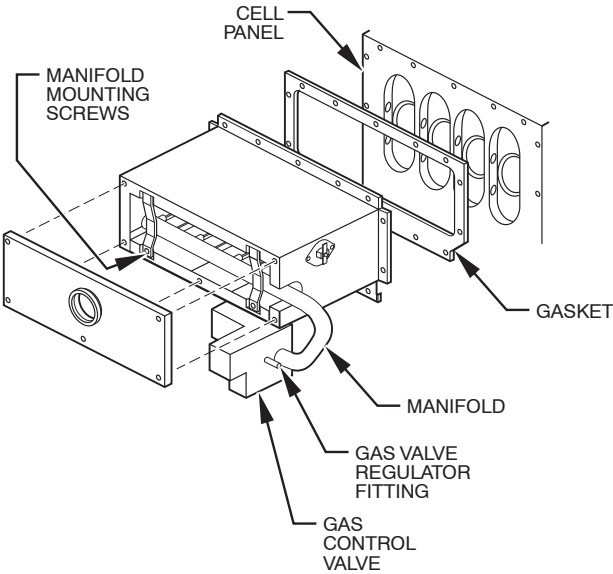

Fig. 6 - Burner Box Assembly
- 9. Remove screws that secure manifold to burner box. (See Fig. 6.)
10. Remove screws attaching burner box to cell panel. (See Fig. 6.)
NOTE: Be sure burner box gasket is installed between burner box and cell panel. (See Fig. 6.) If gasket is damaged, replace it.